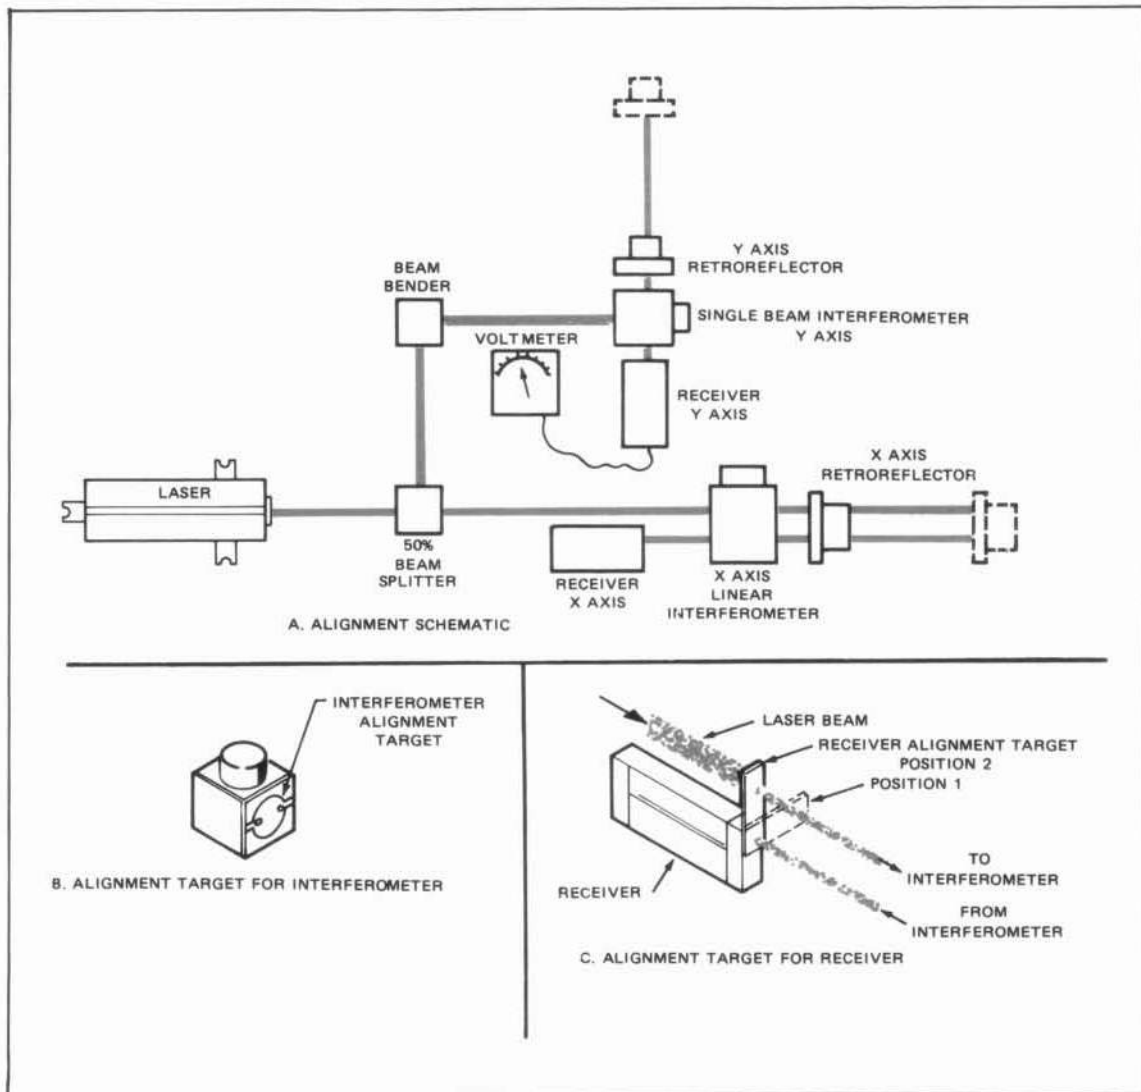
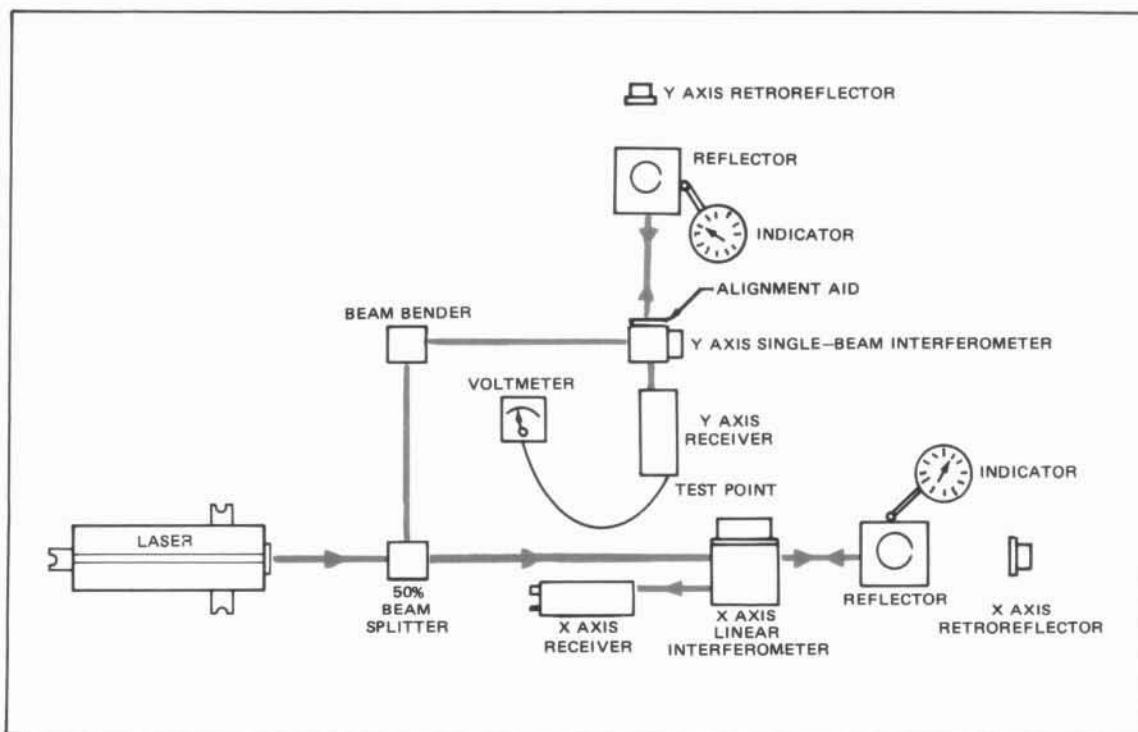

Figure 6-28. Overlapping Dot Alignment
Figure 6-30. Autoreflection Alignment
The following alignment procedure describes the overlapping dots methods used on a two-axis configuration. *Figure 6-28* is a typical measurement configuration which includes a linear interferometer and a single beam interferometer. In general, when the optical components are installed on the machine, their optical centerlines will be nominally in the correct relationship and only minor adjustments should be required.
1. Place the interferometer alignment target on the laser side of the X-axis interferometer and place the receiver alignment target on the receiver so that it is not in the laser beam (see *Figure 6-28*, position 1). Place a piece of opaque material between the interferometer and retroreflector.
3. Remove the opaque material from between the retroreflector and interferometer and rotate the receiver alignment target to position 2 (see Figure 6-28).
Figure 6-30 shows a measurement setup similar to Figure 6-28 except that the referenced mirrors are included.
1. With all optical components in place, install the alignment targets on the interferometer and the receiver (*Figure 6-28*, position 1). Place a piece of opaque material in front of the retroreflector.
1. Place the interferometer alignment target on the laser side of the Y-axis plane mirror interferometer and the receiver alignment target on the receiver (Figure 6-28, position 1). Place a piece of opaque material between the Y-axis plane mirror interferometer and the mirror.